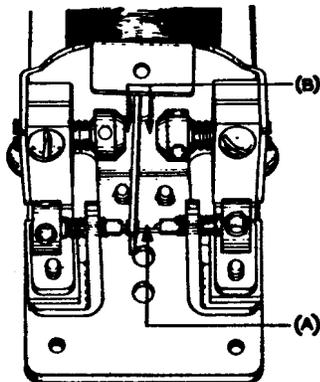

Fig. 104 - 231 Type Relay
- 1.06 Contact Travel** - Fig. 104 (A): Min. $.004''$, max. $.006''$. Check travel on each contact screw. A difference indicates buildup on contact on side of armature having smaller travel. Remove buildup. 74D gauge.
1.09 *Magnetic Air-Gap* — Fig. 104 (B)